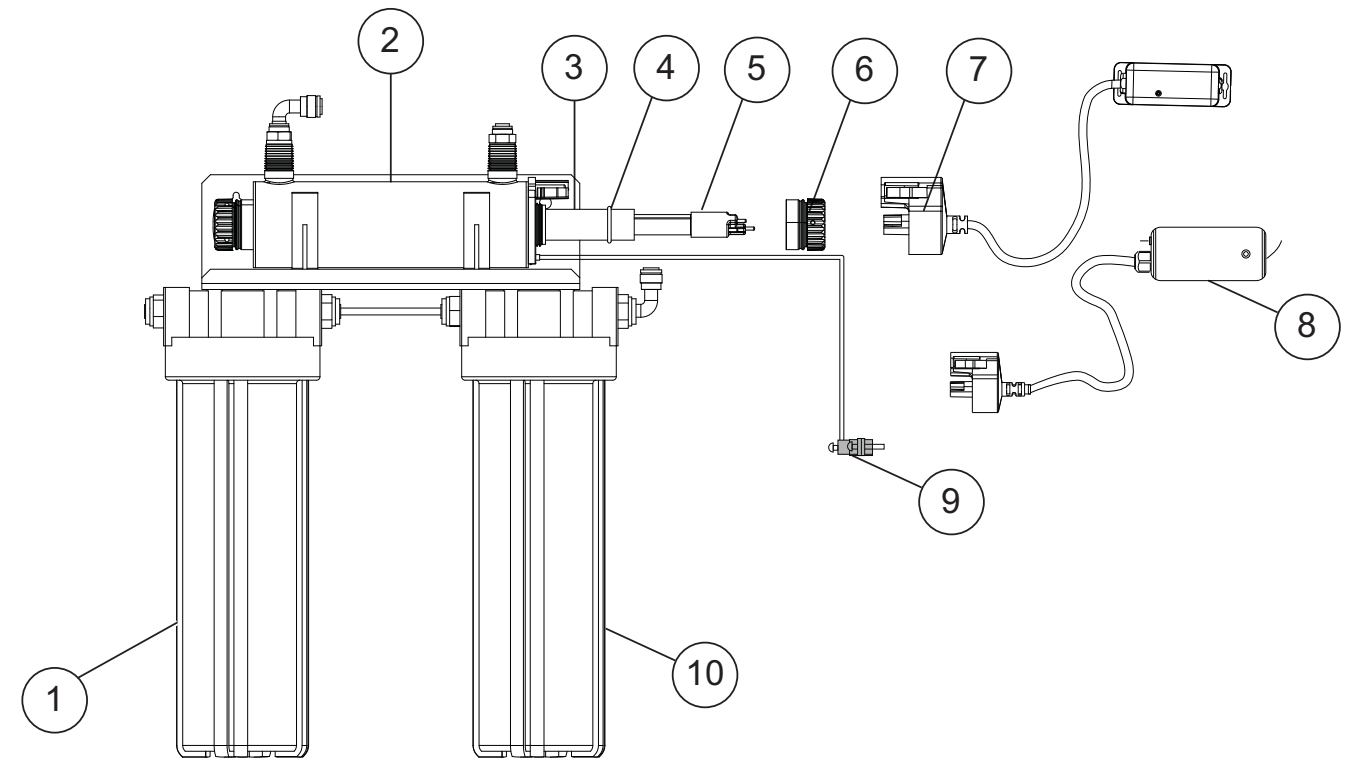

Figure 1 System Components
3. Mount the system to the wall using the two mounting holes in the back of the disinfection system with appropriate fastening devices. Refer to Figure 1.
7. The power source provided with your disinfection system must be located within five (5) feet of an electrical outlet. DO NOT use an outlet that can be switched off (ie. a waste disposal outlet). Attach the lamp connector to the UV lamp, slide the connector over the retaining nut. Plug the ballast into the outlet and ensure the POWER-ON LED is illuminated.